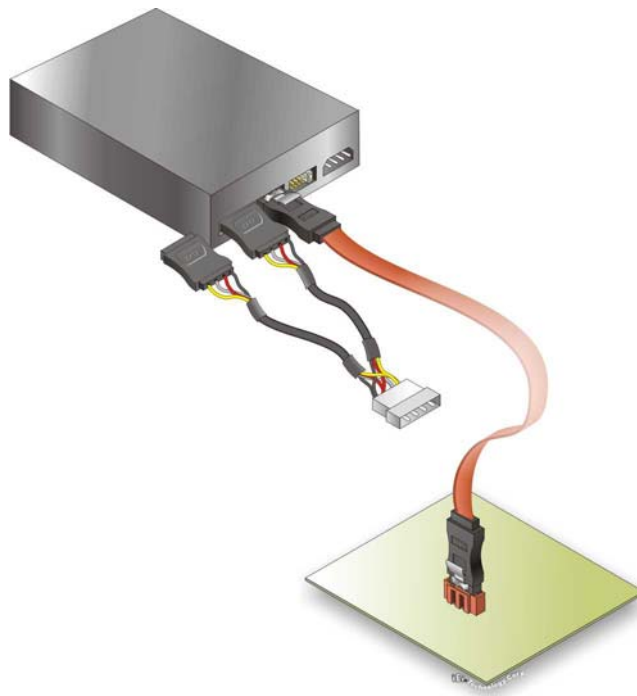

Figure 4-12: SATA Power Drive Connection
- Step 3:** **Connect the cable to the SATA disk.** Connect the connector on the other end of the cable to the connector at the back of the SATA drive. See Figure 4-12.
- Step 4:** **Connect the SATA power cable.** Connect the SATA power connector to the back of the SATA drive. See Figure 4-12.